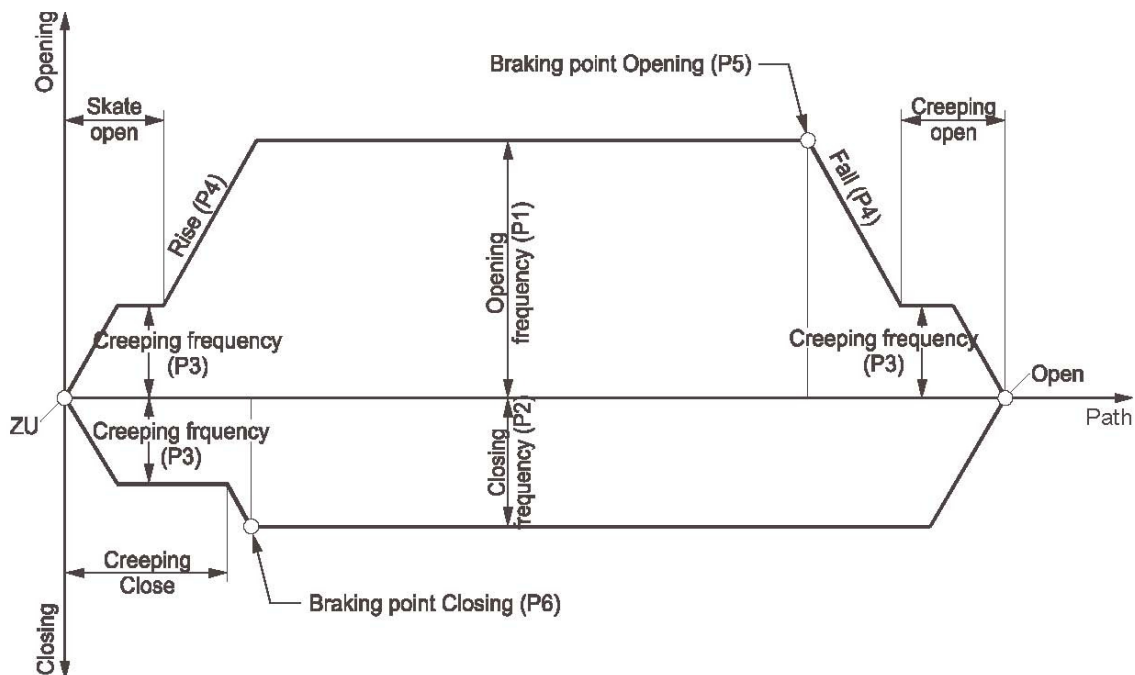

Fig. 5-1 Graph depicting the travel characteristics of the door motion
- Fig. 5-1 depicts the individual parameters and their significance to the door drive.
- Parameter P4 determines the time it takes to achieve max. frequency starting from min. frequency. This parameter thereby determines the rise and fall (see Fig. 5-1) during frequency changes.